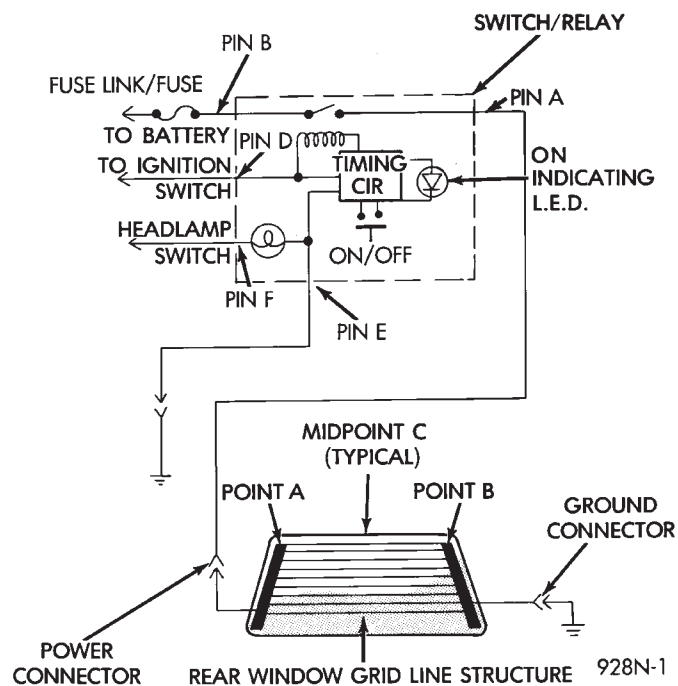

Fig. 3 Systems Electrical Circuit
(1) Remove the switch, relay assembly from the instrument panel or console, see Group 8E, Instrument Panel and leave the switch connector plugged in.
(2) Turn ignition ON.
(3) Using a DC voltmeter, with 0-15 range, check voltage at terminals B, I and L. (Figs. 3 and 4). Terminals B and I should confirm a voltage of 10 to 14 volts to ground. Terminal L should confirm voltage to ground. When terminals B and I show no voltage, trace circuit upstream of switch/relay module for problem (wiring cut, fusible link or circuit breaker inoperative, bulkhead connector not operative, etc.). If terminal L indicates voltage, place switch in Off position. If voltage at L is still indicated or indicator lamp remains on, the switch/relay module should be replaced.
(4) If the relay checks out to this point, momentarily operate switch to ON position. The indicator lamp should come on and remain on for approximately 10 minutes. Terminal L should confirm voltage. If the indicator lamp fails to light or voltage at terminal L is not confirmed the switch/relay module should be replaced.